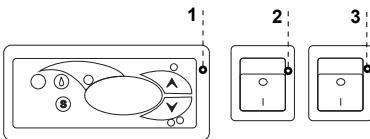
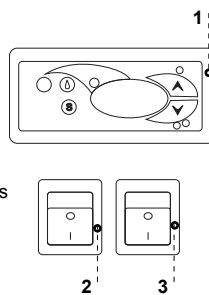

Fig.7 Control panel in "Wiktorja" device
Fig.8 Control panel in "Wiktorja 2" device
- Turn on the main switch Fig.7/2 (p.13) or Fig.8/2 (p.13), which activates the temperature regulator, and then aggregate of the device
- Set the temperature on the temperature regulation panel Fig.7/1(p.13) or Fig.8/1 (p.13) (thermostat service details on p.17 or 18)
- Turn on the lighting switch Fig.7/3 (p.13) or Fig.8/3 (p.13)